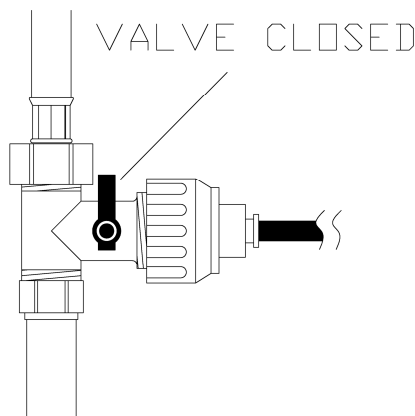
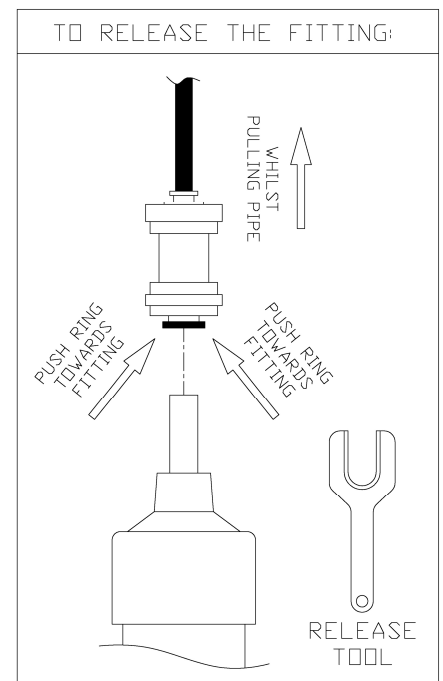

Fig 1.
Fig 2.
2. Turn the lever on the isolator (A) to the closed position (fig 1.) Allow the mixertap to run until no water flows through it.
3. Unclip the filter unit (C) from its bracket (D) under the sink.
4. Remove fittings (B&E) from the filter (C). To do this push the small ring around the fitting towards the fitting whilst pulling the fitting away from the filter (Fig.2). A black release 'spanner' tool was included with your tap to remove fittings (B&E) more easily but they can also be removed by hand.